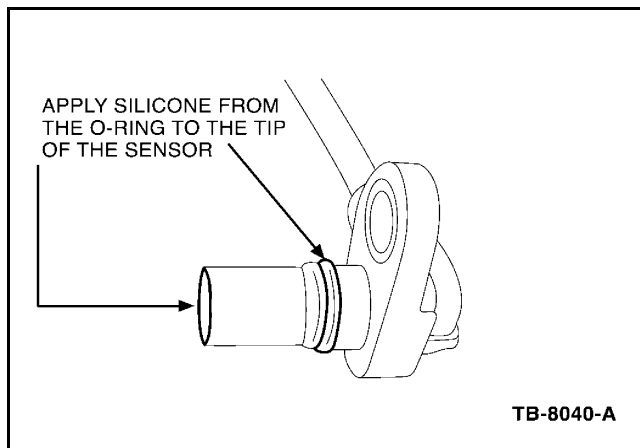

Figure 1 - Article 04-22-13
1. Per the DTC, replace the appropriate front wheel speed sensor. Refer to Workshop Manual Section 206-09. Apply a thin film of XG-3-A (Motorcraft Silicone Brake Caliper Grease and Dielectric Compound) to the O-ring, and the portion of the sensor which is located in the bearing cap. This includes coating the sides and the end of the sensor cylinder (Figure 1).